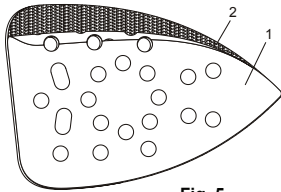

Fig. 5
2. To remove the sandpaper (1), simply peel the sandpaper away from the hook & loop pad (2) (Fig. 5).